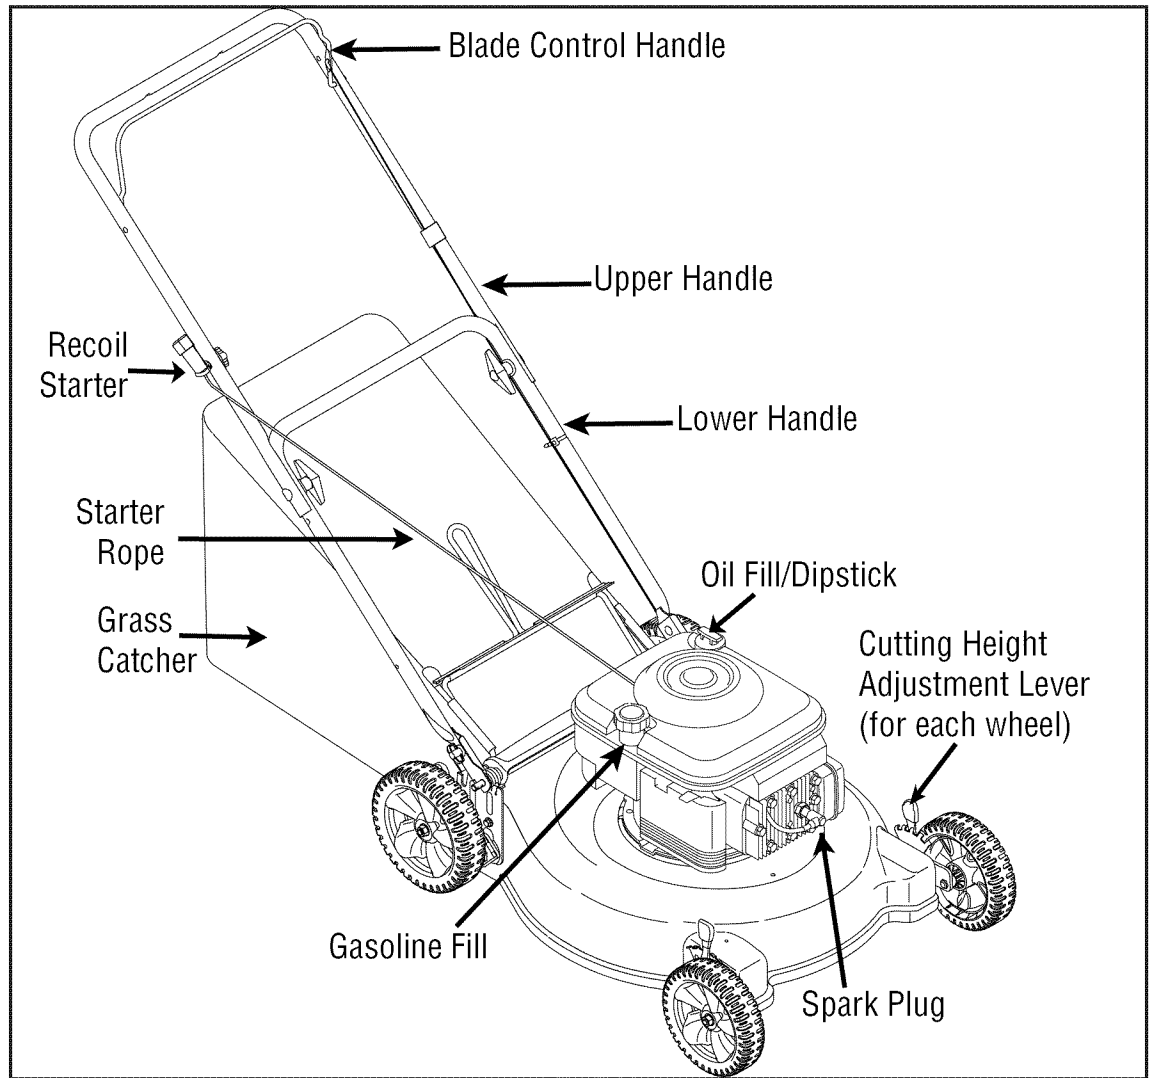

Figure 1
1. Check oil level and add oil if necessary. Follow engine manual for this. See Figure 1 above for location of oil fill.
2. Service the engine with gasoline as instructed in the engine manual. See Figure 1 above for location of gas fill.